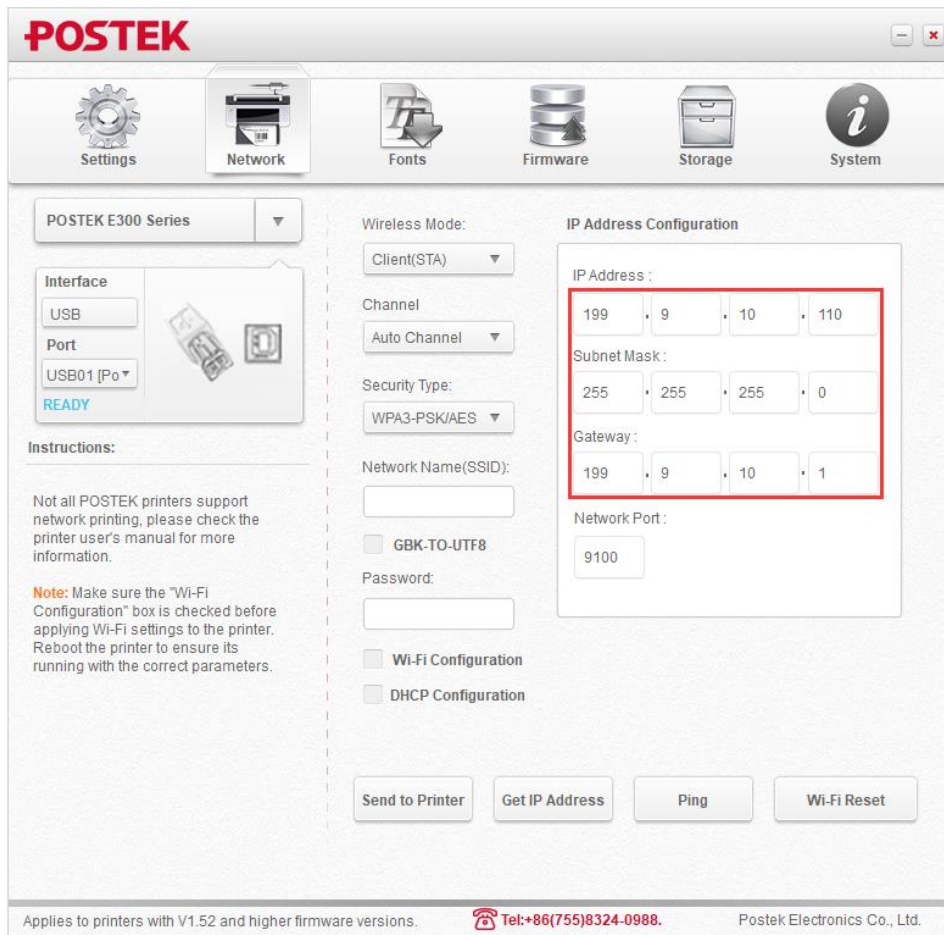

Figure 2-29 Configure the Network Parameters
5. Enter the “IP Address”, “Subnet Mask”, and “Gateway” (Note: the IP address here must be in the same network segment as the LAN, and the last figure of the IP address should be unique in the network group), as shown in Figure 2-29.